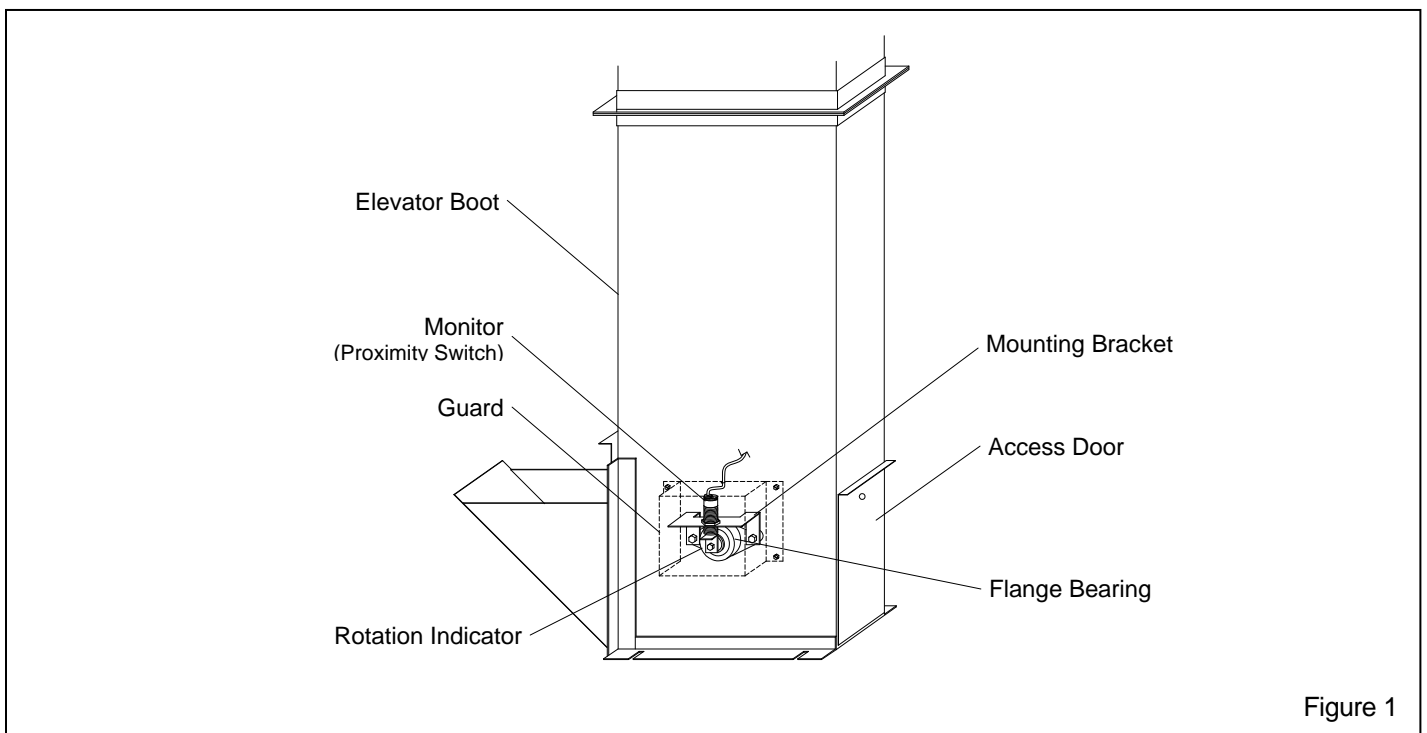

Figure 1
1.3 **General Description:** The illustration in Figure 1 shows the monitor assembly installed on a front feed bucket elevator. The monitor detects the motion of the elevator bottom (idler) pulley. It is designed to shut off the bucket elevator motor in the event the speed of the bottom pulley drops below the monitor's set RPM. This will prevent burn-through, and component damage in the event of an obstruction, jam, or belt slippage, in the bucket elevator.
2.12 Place the guard over the monitor as shown in Figure 1. If the elevator boot does not have mounting holes, hold the guard in position and match drill the holes.